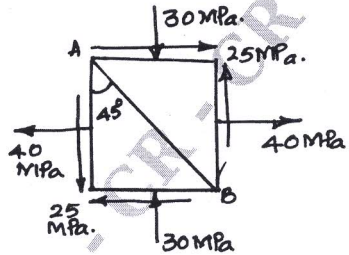

Fig Q1(b)
- b. A point in a structural member subjected to plane stress is shown in Fig Q1(b). Determine the following : (10 Marks)